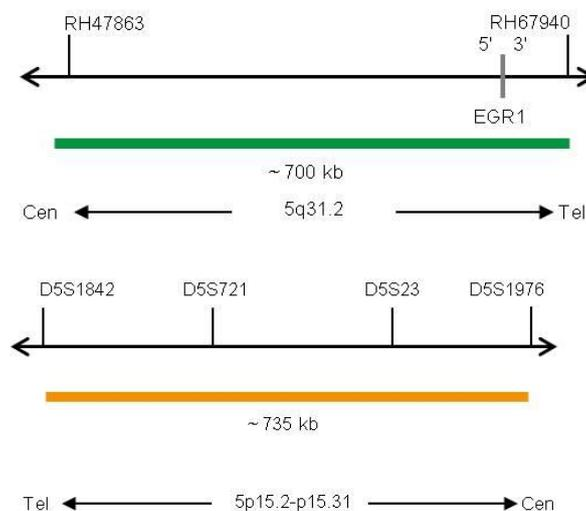

Fig. 1: Top: SPEC EGR1 Probe Map (not to scale); Bottom: SPEC D5S23,D5S721 Probe map (not to scale)
- ZyGreen (excitation 503 nm/emission 528 nm) labeled polynucleotides (10 ng/μl), which target sequences mapping in 5q31.2* (chr5:137,190,679-137,892,461) covering the EGR1 gene (see Fig. 1).
- ZyOrange (excitation 547 nm/emission at 572 nm) labeled polynucleotides (4.5 ng/μl), which target sequences mapping in 5p15.2-p15.31* (chr5:9,233,775-9,967,465) covering the D5S23,D5S721 locus region (see Fig. 1).